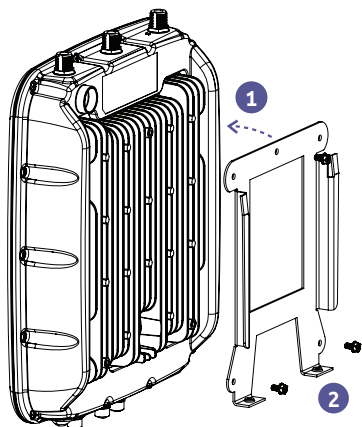

Fig 1. Installing the wall mounting bracket
1. Attach the unit side of the wall mounting bracket to the back of the unit with three M5 x .8mm x 10mm long stainless steel screws. **(Fig. 1)** Note that a single bolt attaches in the middle at the top of the bracket and two bolts attach the bottom of the bracket. Holes on the top left and right corner are unused.